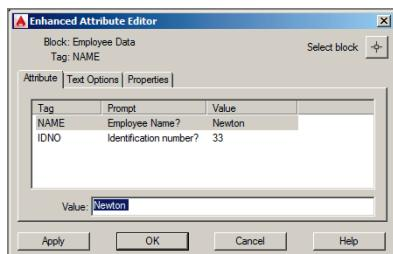

FIGURE 15.33 Editing attribute values in a maximized viewport
14. Now you'll change an attribute value and observe that this change appears automatically in the table through the fields linked to the attribute values. Click the Maximize Viewport icon in the status bar. Double-click the Employee Data block in Dee's office to open the Enhanced Attribute Editor. Type **Newton**, press Enter, type **33**, and press Enter again (see Figure 15.33). Click OK to end the EATTEDIT command.